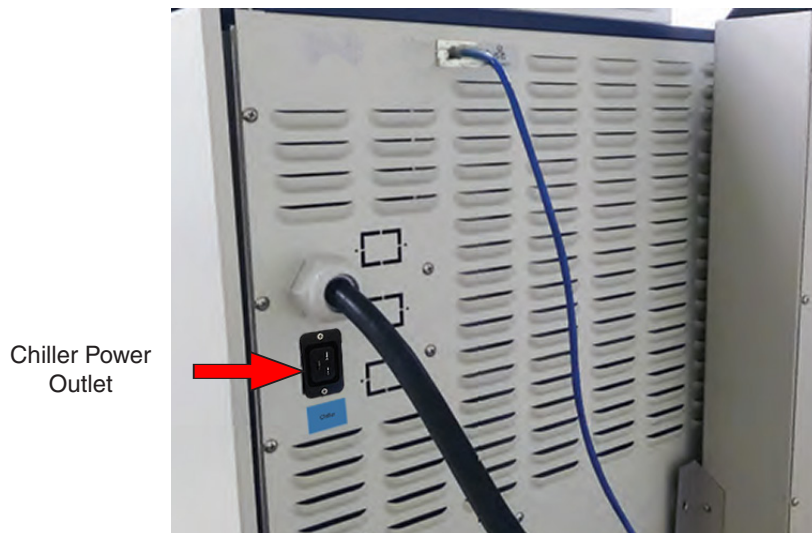

Figure 5.8h: Power outlet for chiller on Xe-3 rear panel.
- If the Xe-3 is equipped with a chiller (C models), the chiller gets power from an outlet on the Xe-3 rear panel (Figure 5.8h).